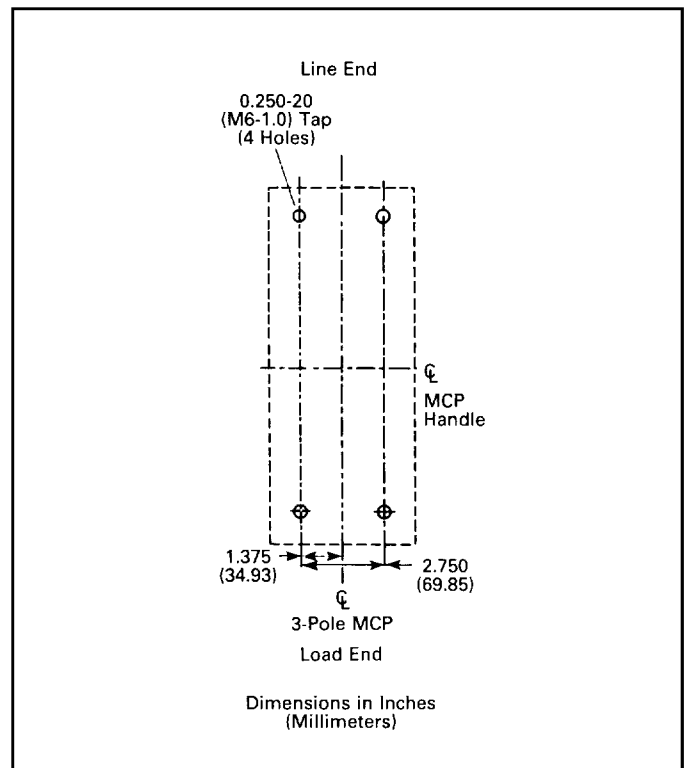
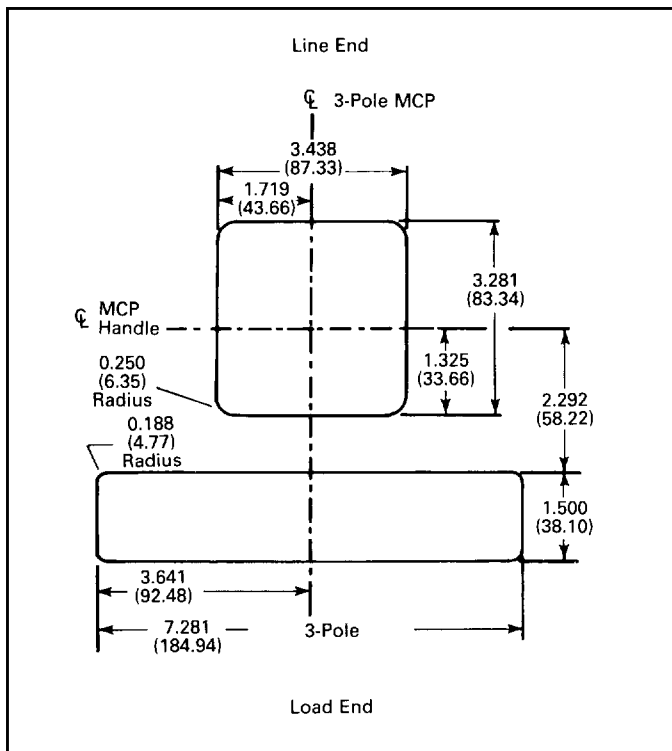

Fig. 2-2 3-Pole MCP Mounting Bolt Drilling Plans
Fig. 2-3 MCP Escutcheon Cutout Dimensions for 3-pole MCP
- a. For individual surface mounting, drill mounting panel using the drilling plan shown in Fig. 2-2. For panelboard mounting, only load end support mounting holes are required. For dead front cover applications, cut out cover to correct escutcheon dimensions, see Fig. 2-3.
Existing cutouts must be modified to agree with requirements shown in Fig. 2-3.